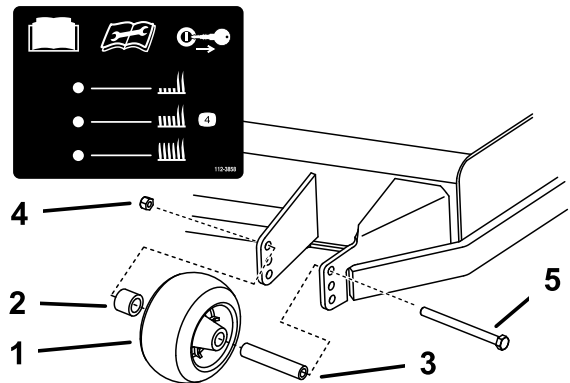

Figure 30
3. Adjust the anti-scalp rollers as shown in Figure 30.